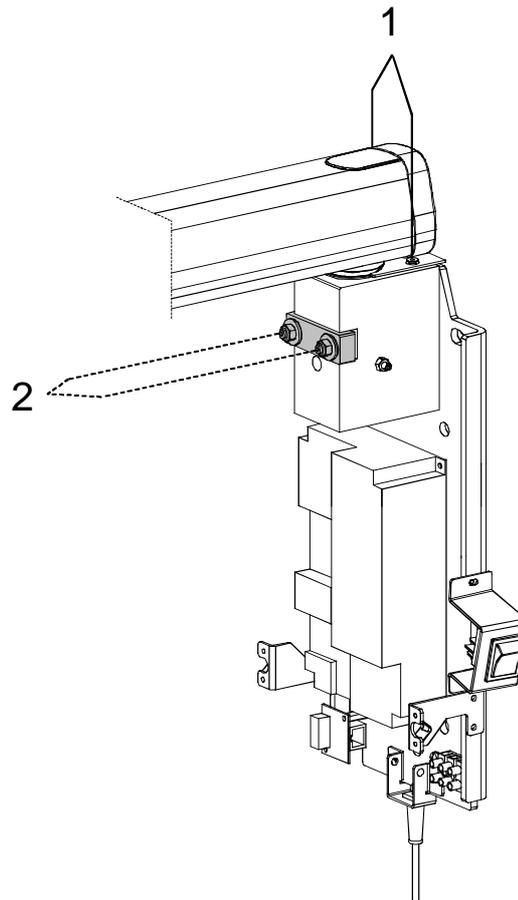

Figure 7-1
- 1.** Remove the plastic timer cover by loosening the two sealing screws (**1** - Figure 7-1) placed on the top part of the wall plate. Be careful to the cables connecting the timer and the plastic cover.
- 2.** Using a 10 mm wrench, adjust the frictioning mechanism nuts (**2** - Figure 7-1) until the movement of the arm is ergonomic.